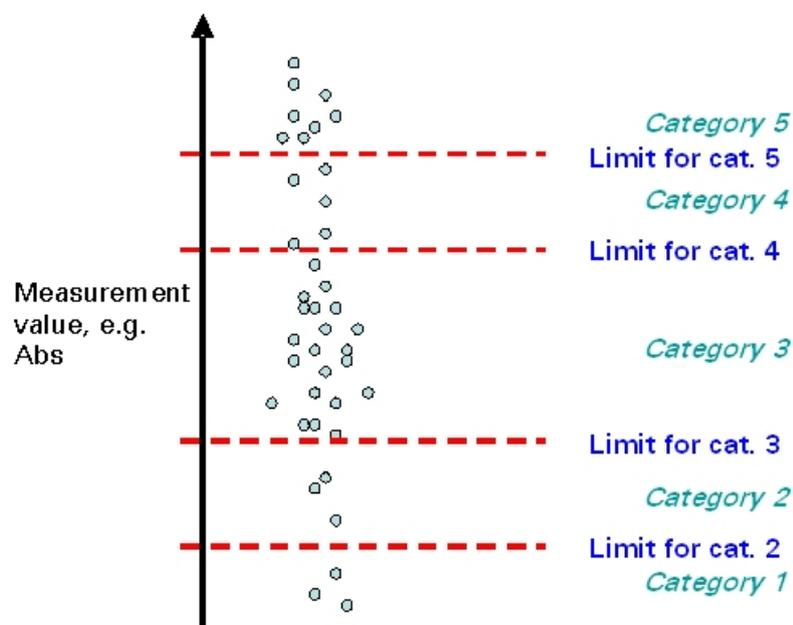

Figure 10-1. Dividing measurement results into categories using cut-off limits
In a qualitative classification analysis, the raw data is divided into separate categories. You can define limits as boundaries for the different categories (see Figure 10-1). There can be up to five limits in SkanIt Software, thereby dividing the data into a maximum of six different categories. The limits (boundaries) can be set as a number, a formula, a specified sample, or a formula containing both samples and numbers. The formulas can contain the operations +, -, / and *. The limits are defined as “less than” (<) at the lower limit of the category and “less or equal than” (<=) at the higher limit.
- **Limit to category** - Select the number of categories that you want to have by ticking the *Limit to category* check box for each desired category starting from the bottom (see Figure 10-1). Those categories become available and **Qualitative Classification Limit Wizard** is launched.